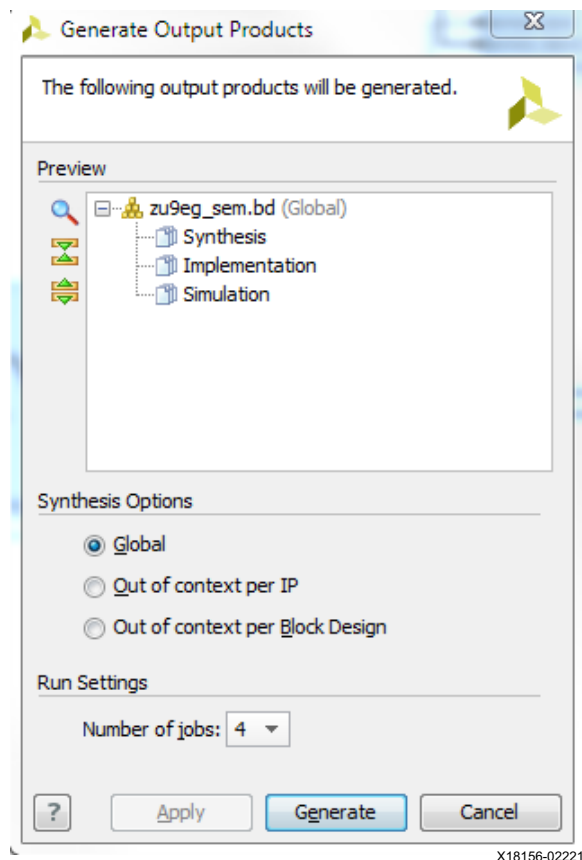

Figure 9: Design 1 - Generate Output Products
- a. Select **Generate**. See Figure 9.